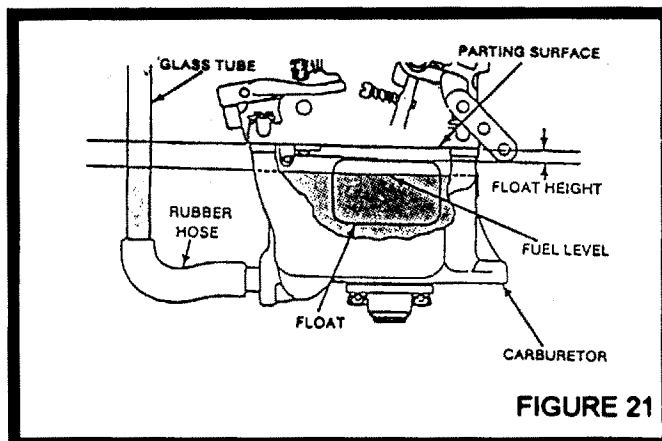

FIGURE 21
FLOAT VALVE AND SEAT TEST (See Figure 21)
- 130) Replace the bowl drain plug with a fitting, rubber hose, and glass tube as shown in Figure 21. The glass tubing should be positioned vertically beside the carburetor.
- 133) With fuel supplied to the carburetor as shown in Figure 21, operate the throttle lever for several strokes to fill the accelerating pump and passages. Then close the throttle, open it fully again, and hold it for a few seconds. If the accelerating pump is operating correctly, a solid stream of fuel will be discharged from the accelerating pump discharge tube and will gradually die away after the spring on the pump plunger reaches its limits.